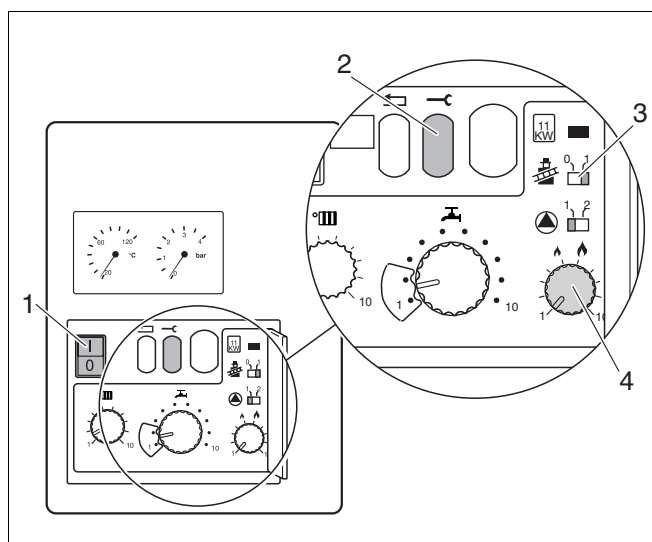

Fig. 82 Check the default gas-air ratio settings
- Set mains switch (fig. 82, item 1) and chimney-sweep switch (fig. 82, item 3) to "0".
- When the burner has fired (after approx. 30 seconds), push the service button (fig. 82, item 2) and keep it pressed until "V" is shown on the display.
- Set the heating-capacity controller (fig. 82, item 4) to "1".